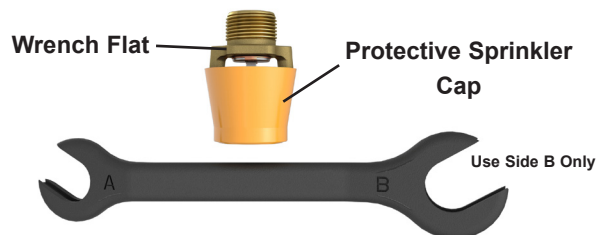

Figure 1: ESFR Pendent Sprinkler Wrench
- D. **Use ONLY sprinkler wrench 13635W/B (shown in Figure 1) for installing VK514. With the sprinkler contained in the protective cap, install the sprinkler onto the piping by applying the sprinkler wrench to the sprinkler wrench flats only, while taking care not to damage the sprinkler operating parts.**
Sprinkler Wrenches (see Figure 1):